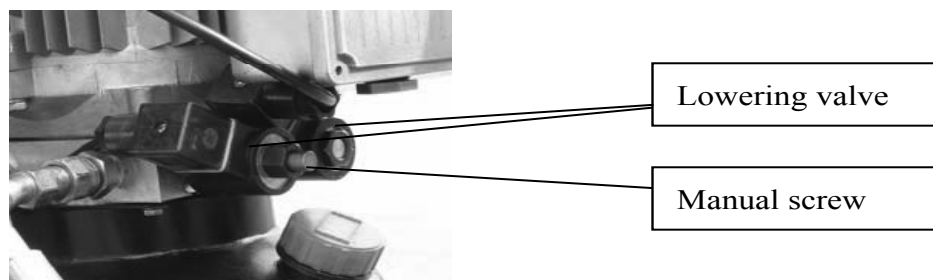

Fig.24
8、 It is important to know how to lower the carriages manually, when powered off unexpectedly. Make sure nothing is under the carriages and all unauthorized personnel must be forbidden to near the machine.(Fig.24)